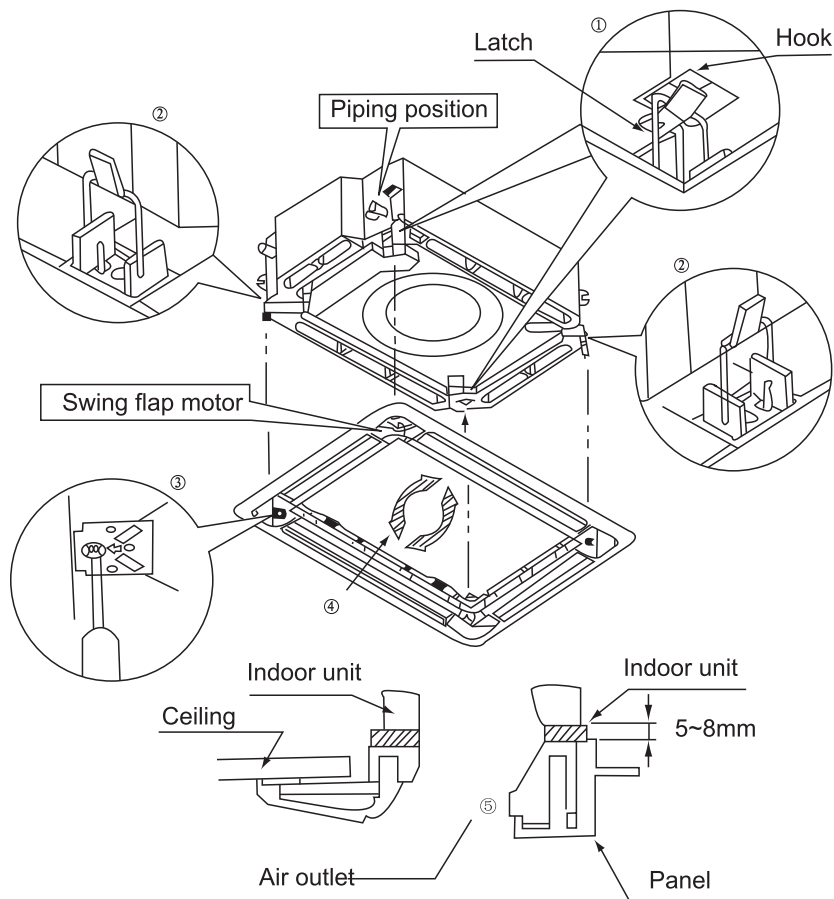

Figure 3-1-45
- (2). Place the panel at the unit, and latch the hooks beside and opposite the swing flap motor.
- (3). Latch other two hooks.
- (4). Tighten four hexagonal screws under the latches about 15mm.
- (5). Adjust the panel along the direction indicated by the arrow as shown in Figure 3-1-45.
- (6). Tighten the screws until the thickness of the sealing material between the panel and the indoor unit reduces to 5-8mm.